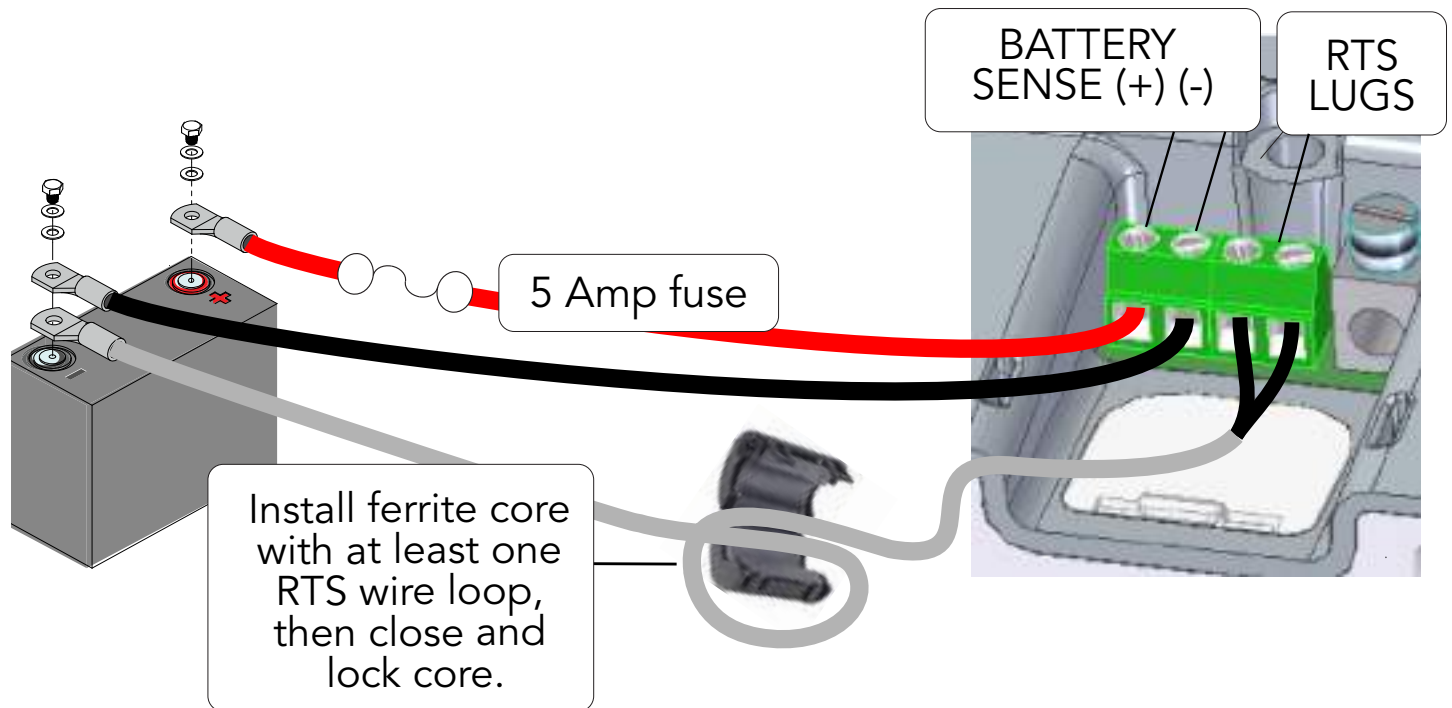

Figure 3-3. Accessory installation detail
Three (3) ferrite chokes are included for individual installations around an RTS cable, PV (+) and (-) cables (in one choke) and an Ethernet cable. See Figures 3-3 and 3-4 for installation details conforming to FCC Class B EMI requirements. Each core must be installed as close to the GenStar MPPT as possible.
For Accessory Wiring, refer to schematic in Figure 3.3 below when following 3.4.1 and 3.4.2 on next pages.
Refer to Figure 3-3 above.
Due to connection and cable resistance, voltage drops are unavoidable in all power cables that carry current (See Figure 3.3 above). If Battery Sense wires are not used, the controller must use the voltage reading at the battery power terminals for regulation. This voltage may differ from the actual battery bank voltage due to voltage drop.
The two sense wires can range in size from 1.0 to 0.25 mm² (16 to 24 AWG), and should be cut to length as required to connect the battery to the voltage sense terminals. The two-position terminal - to the left of the Load (+) terminal (beyond the RTS terminals) (see Figures 3-3 and 3-4) is used for the battery sense connections. A twisted pair cable is recommended but not required. Use UL rated 300 Volt conductors. The voltage sense wires may be pulled through conduit with the power conductors.
An RTS can be added at any time during system installation (refer to Figure 3-3).
Connect the RTS to the two-position terminal located immediately to the left of the Load (+) terminal (see Figures 3-3 and 3-4).